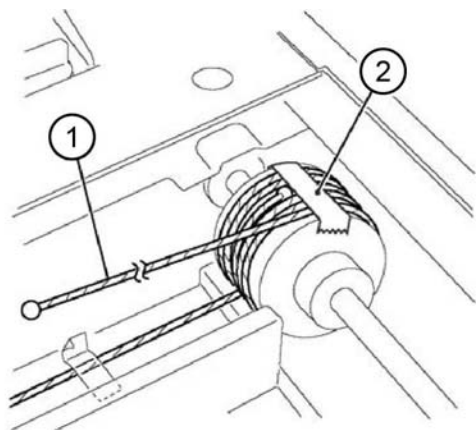

Figure 8 Capstan winding (2)
3. Wind the end-ball end of the carriage cable around the capstan, **Figure 8**:
- a. Wind the cable (1) 3 turns.
- b. Use adhesive tape (2) to affix the cable to the capstan.